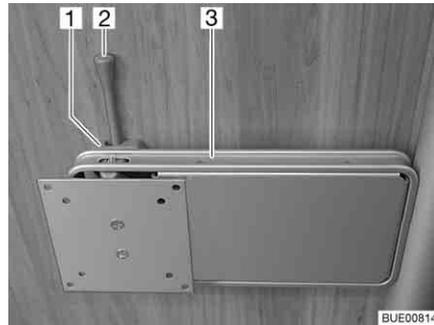

Fig. 54 Holder on the column
- Push the release lever (Fig. 54,2) to the side and turn the holder (Fig. 54,3) with the flat screen to the desired position.
- Turn flat screen back until the holder (Fig. 54,3) engages in the lock (Fig. 54,1).